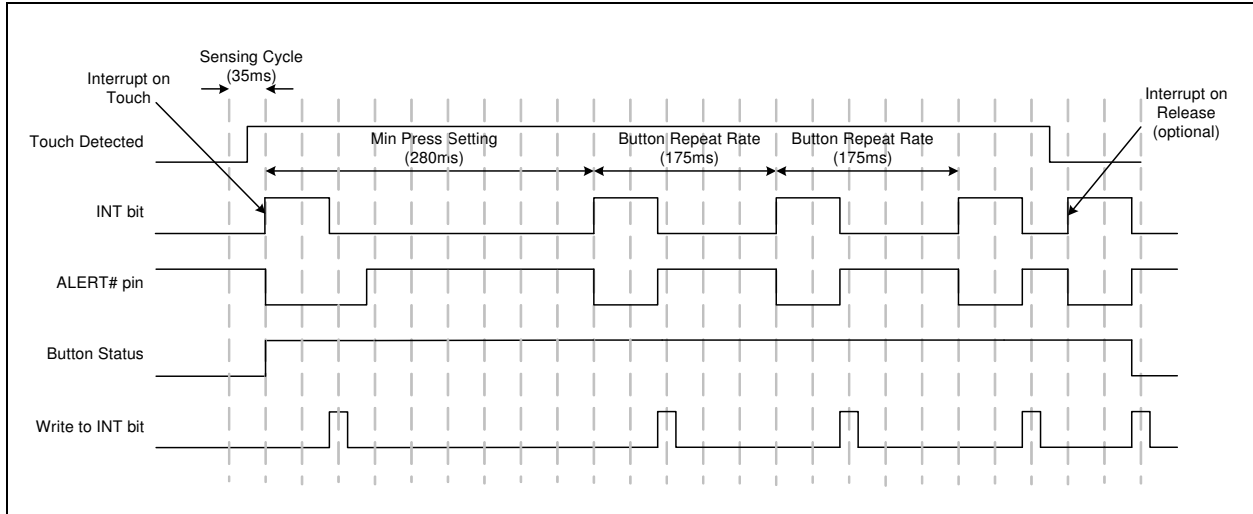
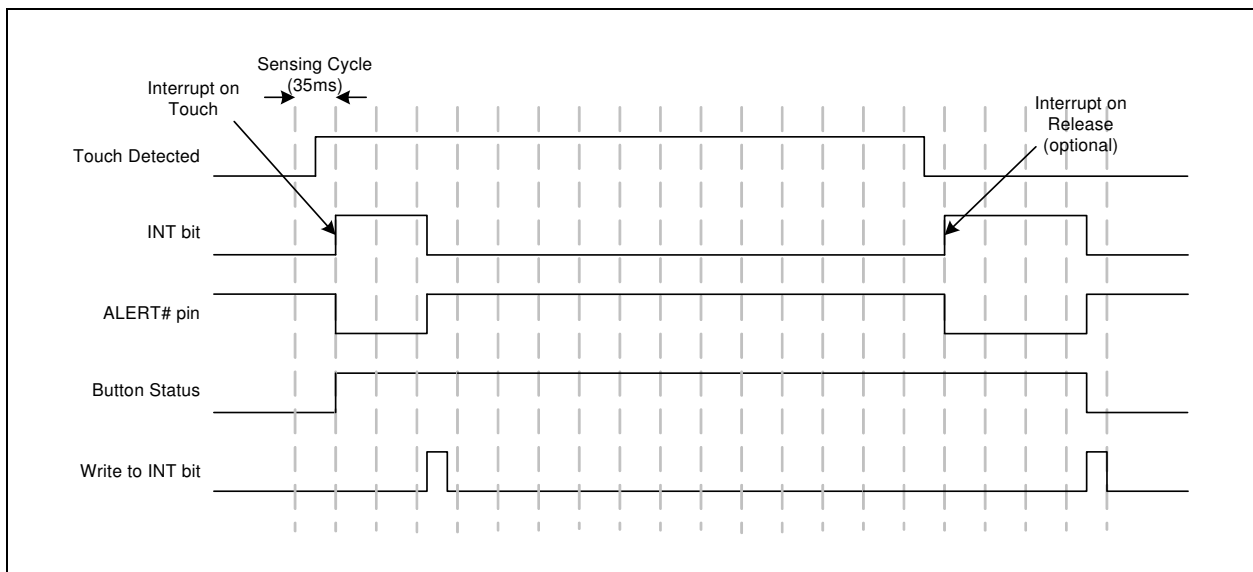

Figure 4.3 Sensor Interrupt Behavior - Repeat Rate Enabled
Figure 4.4 Sensor Interrupt Behavior - No Repeat Rate Enabled
1. An interrupt is generated when a touch is detected and, as a user selectable option, when a release is detected (by default - see INT\_REL\_n in Section 5.6.2, "Configuration 2 - 44h"). See Figure 4.4.
2. If the repeat rate is enabled then, so long as the touch is held, another interrupt will be generated based on the programmed repeat rate (see Figure 4.3).
**APPLICATION NOTE:** Figure 4.3 and Figure 4.4 show default operation which is to generate an interrupt upon sensor pad release.